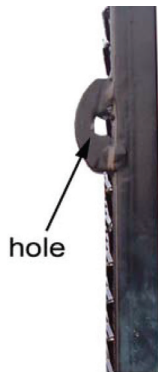

Figure 4-6
6. Insert the spring pull pin into the hole to the ramp when you fold up the ramp. *See Figure 4-6.*